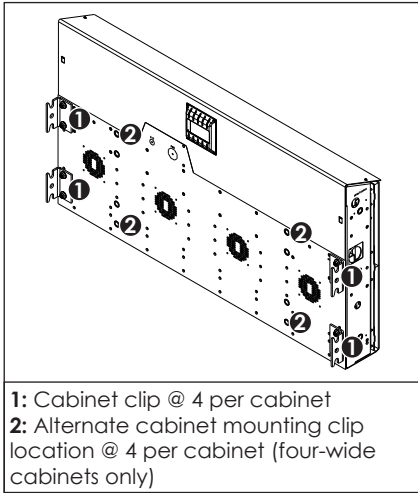

Figure 2: Attach Mounting Clips
- 3. Ensure the display section has cabinet clips installed in the correct locations and orientation. Only four-wide display sections have alternate cabinet clip mounting locations. Clips may also be rotated for wall channel placement. Refer to the contract-specific Shop Drawing for the required locations and orientation. Refer to **Figure 2**.